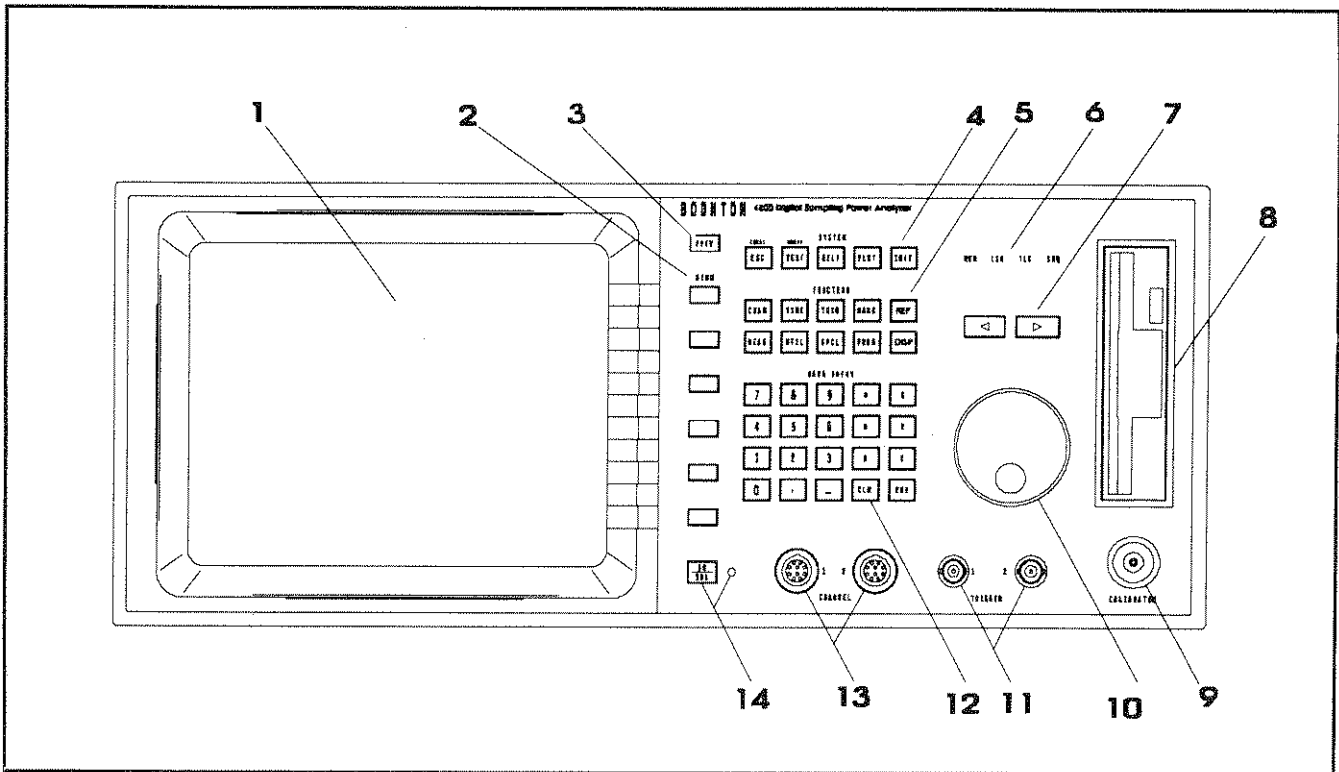
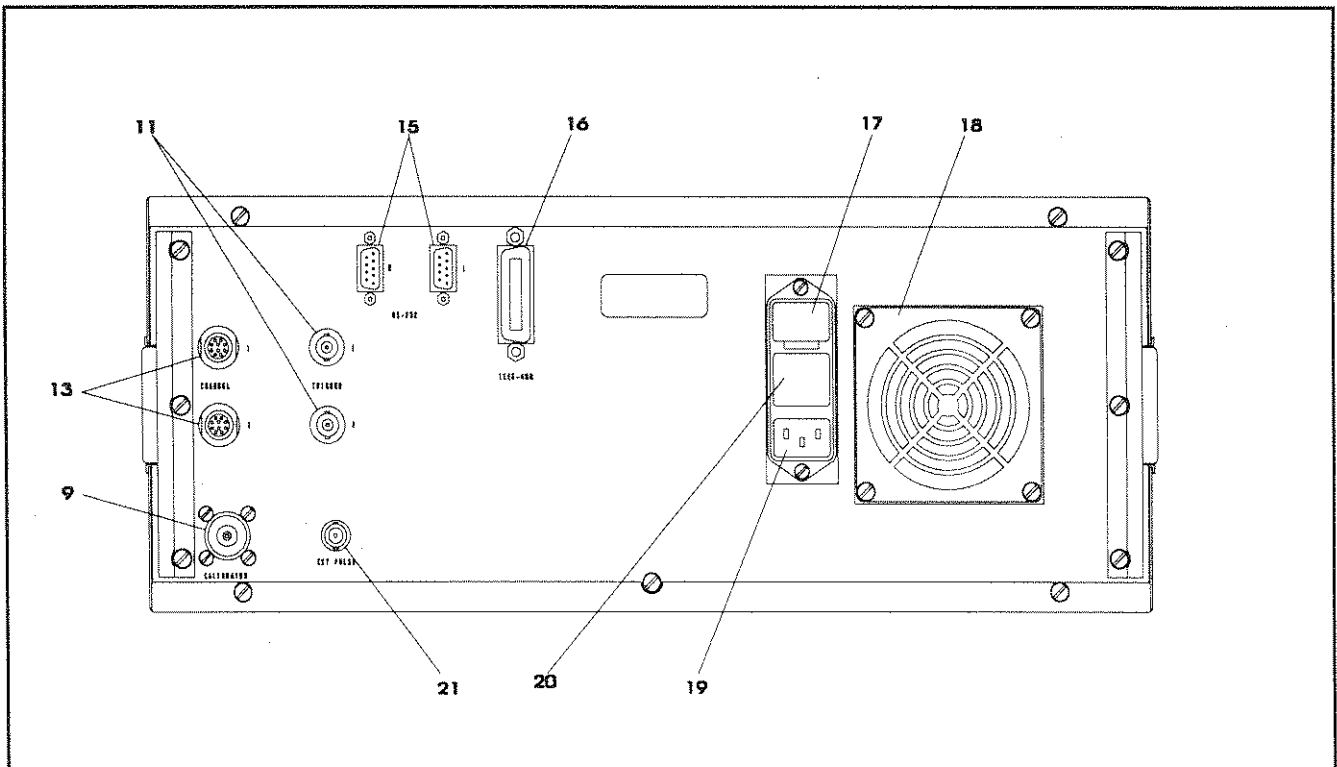

Figure 3-1. Standard Model 4500 Digital Sampling Power Analyzer - Front Panel
Figure 3-2. Model 4500 Digital Sampling Power Analyzer - Rear Panel
Connect the power cord supplied with the instrument to the power receptacle on the rear panel. See Figure 3-2.
7. Verify that the Instrument Serial Number matches the number on the rear panel label adjacent to the power connector assembly. See Figure 3-2.
Figures 3-1 and 3-2 illustrate the controls, indicators and connectors on the front and rear panels, respectively, of the standard Model 4500. Refer to Table 3-1 for a description of each of the illustrated items. Connectors indicated by an asterisk (*) may be front or rear-mounted, depending on the option selected. The function and operation of all controls, indicators and connectors are the same on the standard and optional models.
1. If the Model 4500 power is off, press the power switch located on the rear panel. See Figure 3-2. If the ON/SBY indicator LED on the front panel is off, press the ON/SBY key. See Figure 3-1.